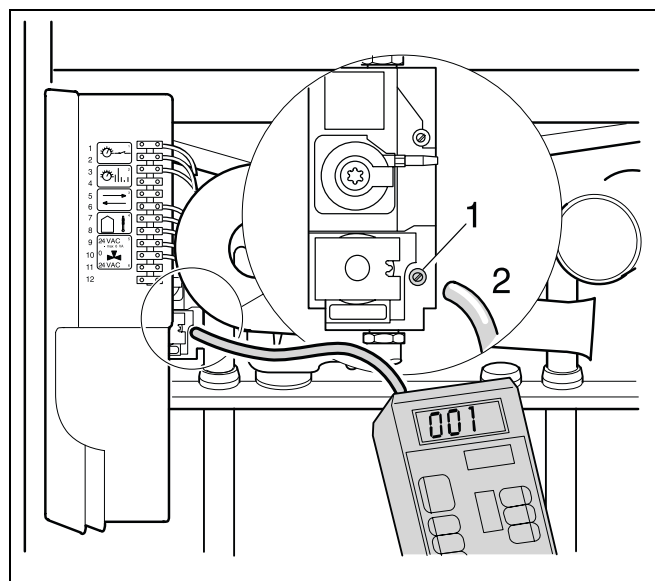
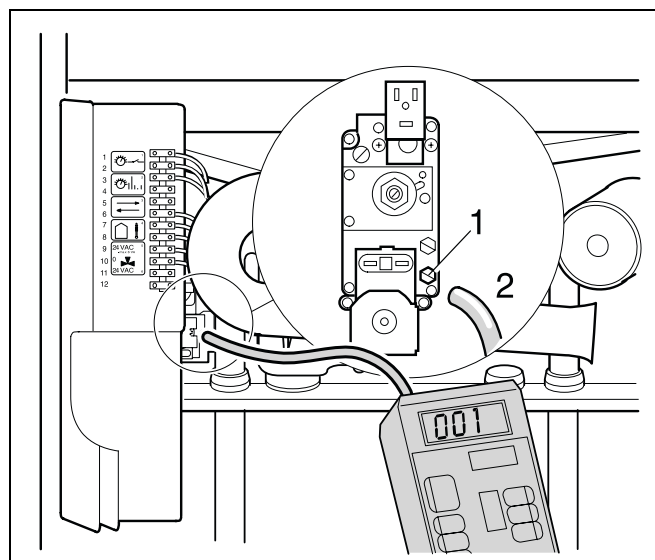

fig. 33 Measuring the gas distribution pressure
fig. 34 Measuring the gas distribution pressure (SIT gas units)
nipple on Honeywell gas units (fig. 33, item 1) two turns,
fully unscrew the plug on SIT gas units (fig. 34, item 1).
nipple (fig. 33, item 2 or fig. 34, item 2).